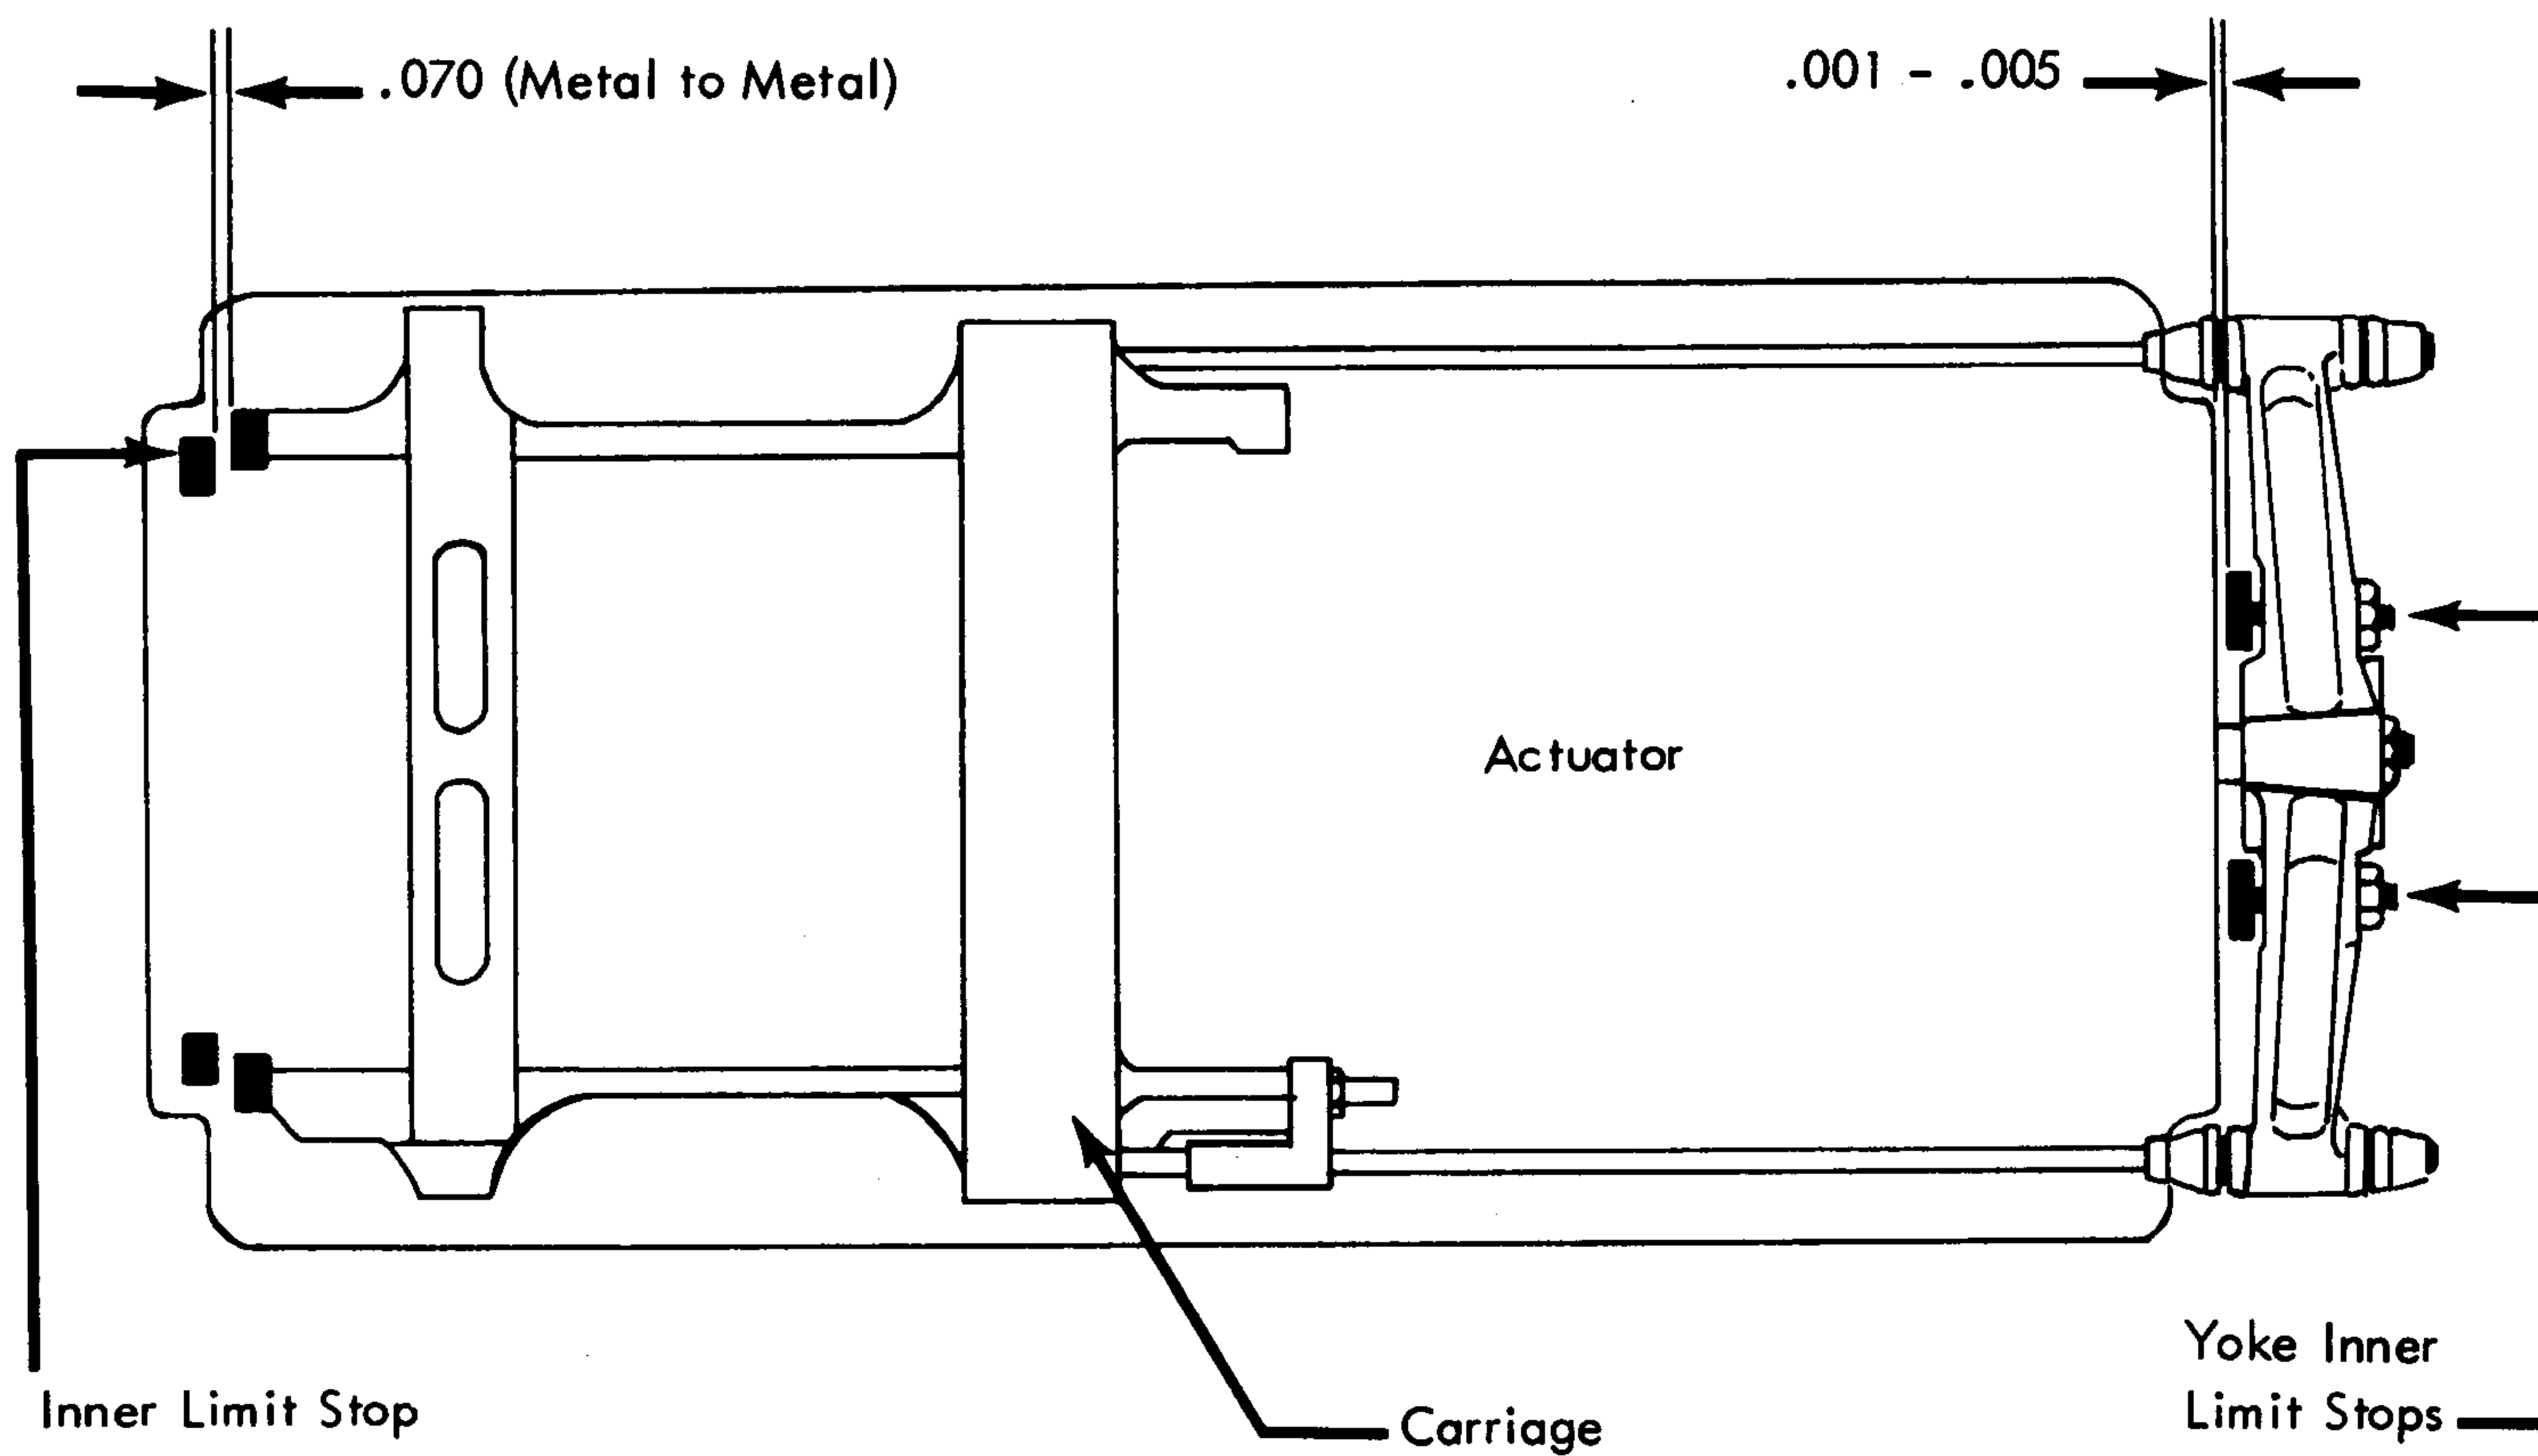

Figure 2-41. Yoke Inner Limit Stop Adjustment
Yoke Inner Limit Stops (Figure 2-41)
2. Place a .070" shim between carriage and inner limit stop (metal-to-metal). (Figure 2-41).